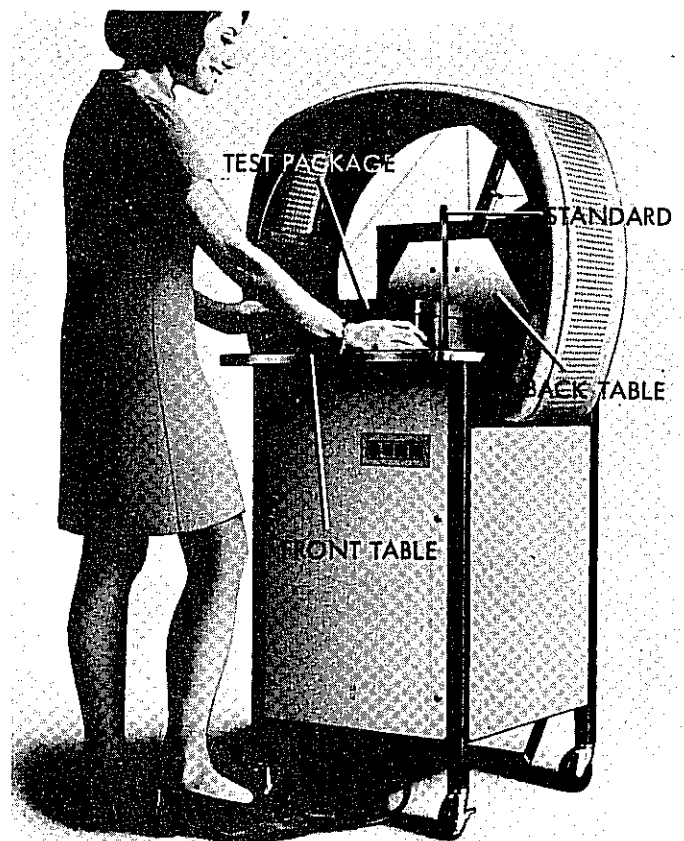

Figure 23. Positioning Test Package
5. Position test package over back and front tables taking care to hold firmly in place against standard (figure 23).
15. Position a test package over front and back tables taking care to hold firmly in place against standard (figure 23).